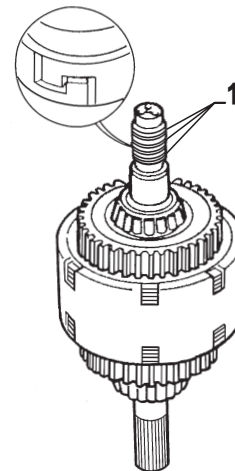

FIG. 1-5
Mount piston ring seals (item 1, Fig. 1-5) onto input shaft.